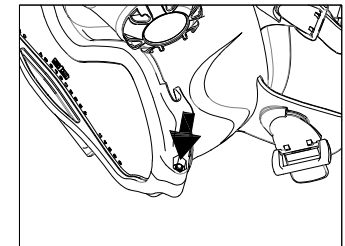

FIGURE 7
4. Turn the mask upside down and place a nut in one of the nut-shaped holes on the side of the lens (Fig. 7). Note: Nut will fall out of hole if mask is not upside down.